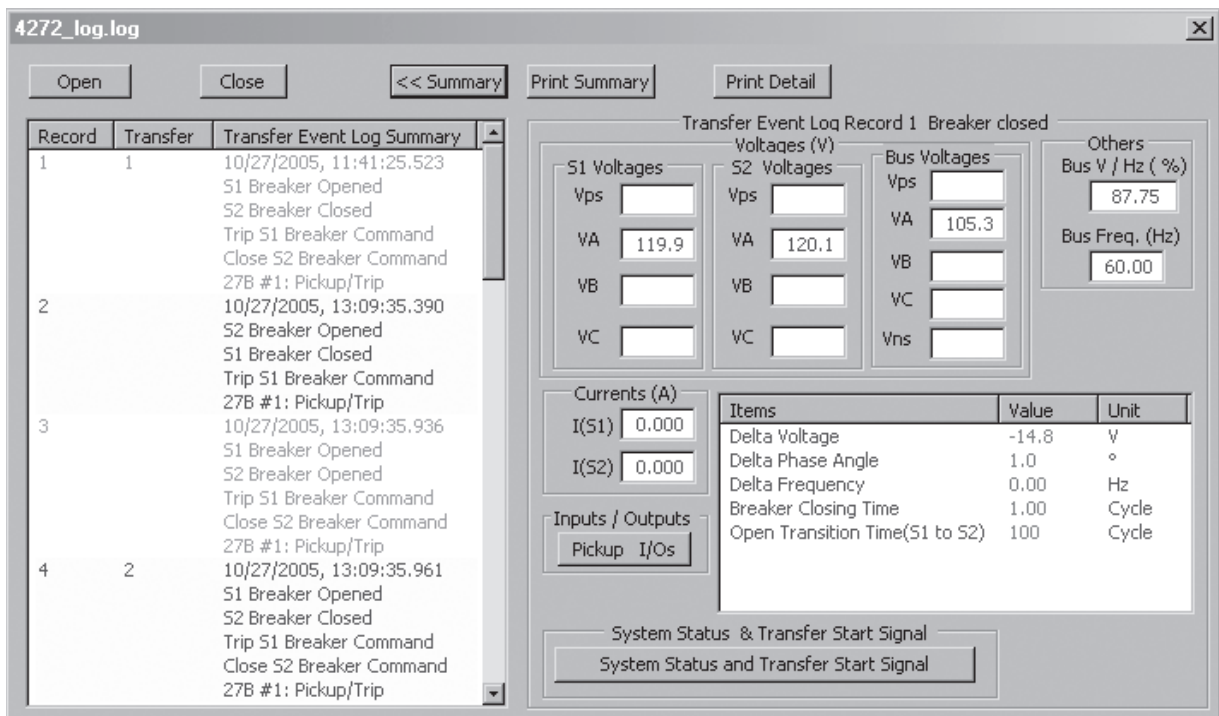

Figure 3-24 Transfer Event Log File Summary and Details Screen
5. Select **Details**. ISScom will expand the Transfer Event Log Viewer screen to include the **Details** section (Figure 3-24) which includes additional Transfer Event information.